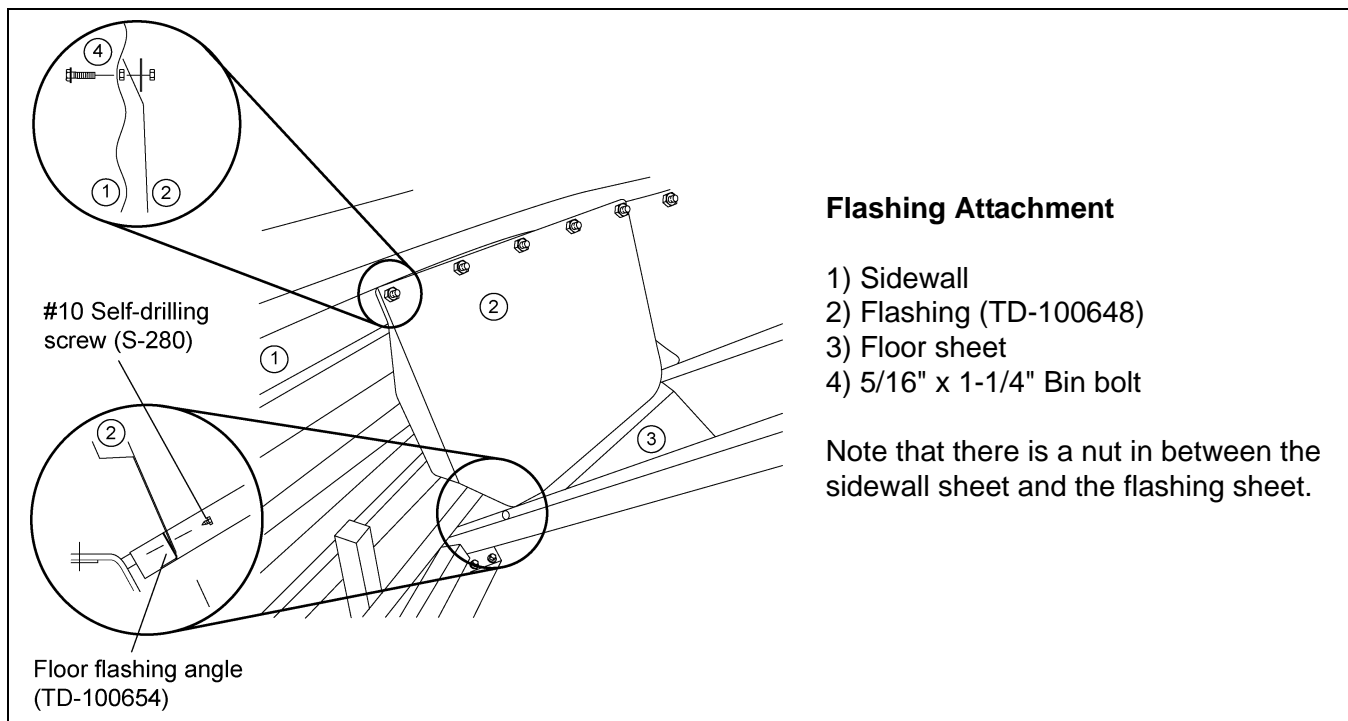
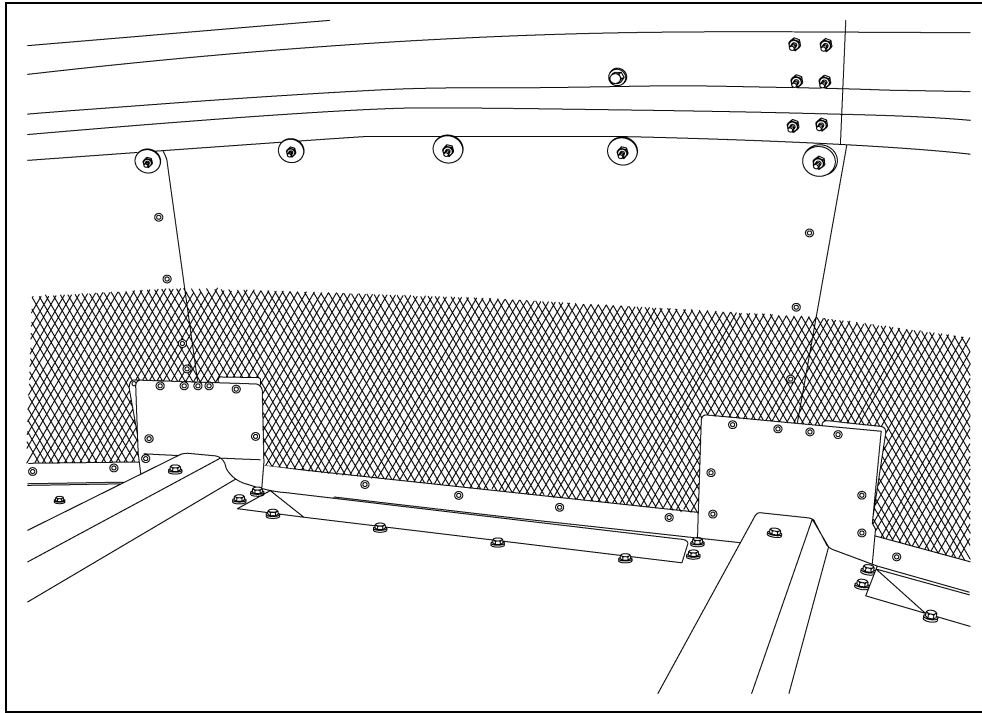

Figure 8I
Figure 8J
Install the eave flashing centered on the floor sheet (1 per) with the bent edge towards the sidewall install a fender washer (S-3671) and nut. Screw the flashing to the flashing angle at the dump hopper opening with five (5) #10 self-drilling screws (S-280) and screw the flashing pieces together where they overlap with three (3) #10 self-drilling screws (S-280). (See Figure 8I below and Figure 8J on Page 43.)